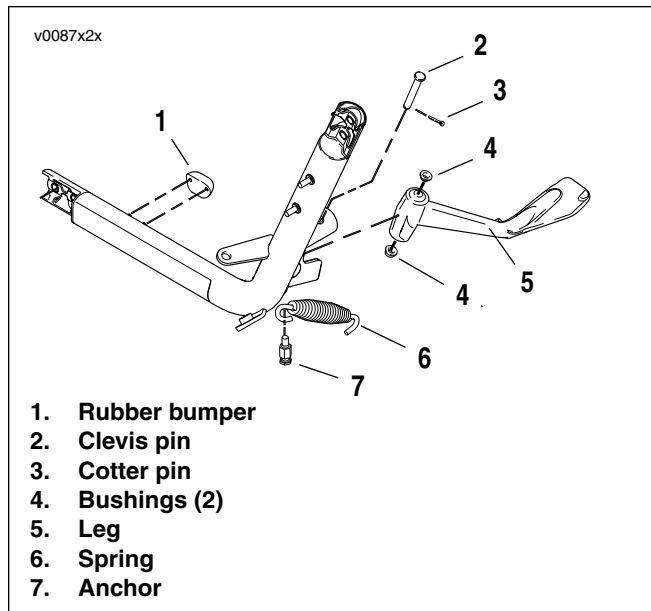

Figure 2-33. Jiffy Stand Components (typical)
2. See Figure 2-33. Remove cotter pin (3) from clevis pin (2).
1. See Figure 2-33. Apply LOCTITE® 243 (blue) to anchor (7). Install and tighten anchor to 7-9 Nm (62-79 in-lbs).
2. Apply LOCTITE® AEROSOL ANTI-SEIZE to both bushings (4) and install bushings in position for a retracted leg.
3. Orient leg retracted in mounting bracket, and install **new** clevis pin (2) through the upper bushing (4), leg (5), and lower bushing (4).
4. Install **new** cotter pin (3).
5. Attach spring (6) to the anchor and to jiffy stand leg (5). When properly installed, spring open hook on anchor faces outward and open hook on jiffy stand leg faces down when jiffy stand leg is extended.
6. Replace rubber bumper (1) if required.